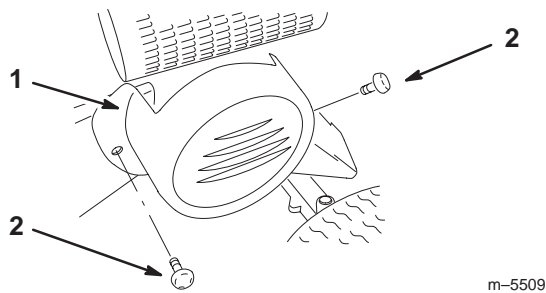

Figure 32
1. Remove the two knobs and belt cover from the tractor (Fig. 32).
10. Install belt cover (Fig. 32).